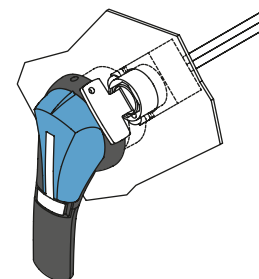

Fig.4
- using CASTELL FS-type in external front operation (Fig. 4).